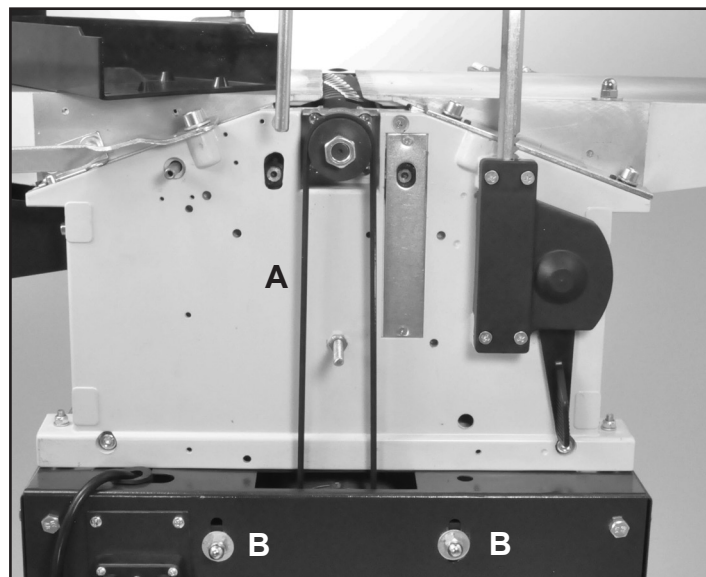
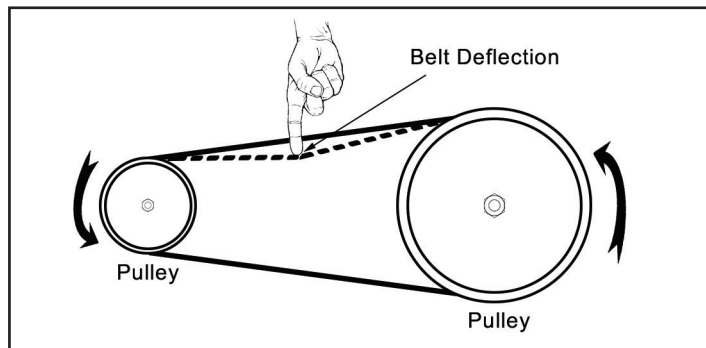

FIG. 30
FIG. 32
The cutterhead drive belt and the feedgear drive belts need to be checked periodically and retightened if necessary. Belts will stretch with use, especially when they are new and are breaking in. Both drive belts are located behind the machine's front and rear covers. FIG. 30 & 31. To inspect, adjust or change the drive belts:
3. Check the *Cutterhead Drive Belt* (#309, FIG. 30, A) tension with thumb pressure. The drive belt should not give more than 3/8" in the center. FIG. 32.
4. From the front of the machine, loosen the four Nuts (#313, FIG. 30, B) that secure the motor in place. Lift the motor to slacken the tension on the drive belt, or move it down to increase the belt tension.
1. To replace the *Drive Belt* (#309), follow the same steps, #3-5 above. Loosen the tension until the belt can be easily removed from the Motor Pulley (#311) and Cutterhead Pulley (#235). Once removed, reverse the steps to install and re-tension the new belt on the pulleys. FIG. 30.